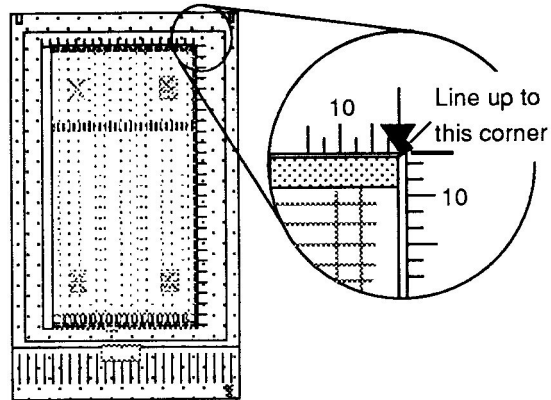

FIGURE 2
- *The test chart must be placed face down on the scanner window, with the black strip along the rear edge of the window and the edge of the chart against the right edge of the glass (see Figure 2).*
1. Place the test chart on the Apple Scanner as shown in Figure 2.